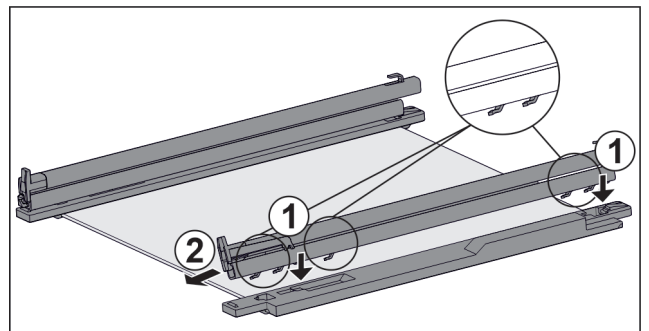

Fig. 156 Glass shelf with rails and retaining parts
- ▶ Place rail hooks onto the openings of the **left** retaining part. *Fig. 156 (1)*
- ▶ Push rail forwards. *Fig. 156 (2)*
- ▶ Place rail hooks onto the openings of the **right** retaining part. *Fig. 156 (1)*